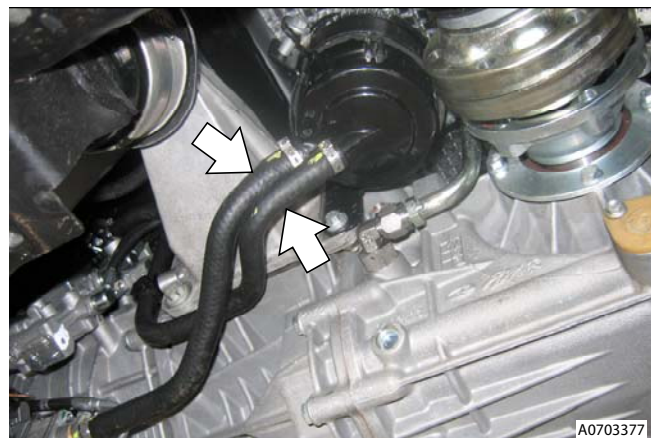

Figure 1
4. Remove clips and release reservoir hoses from valve unit and pump (place drain tray to collect fluid) (see Figure 1).